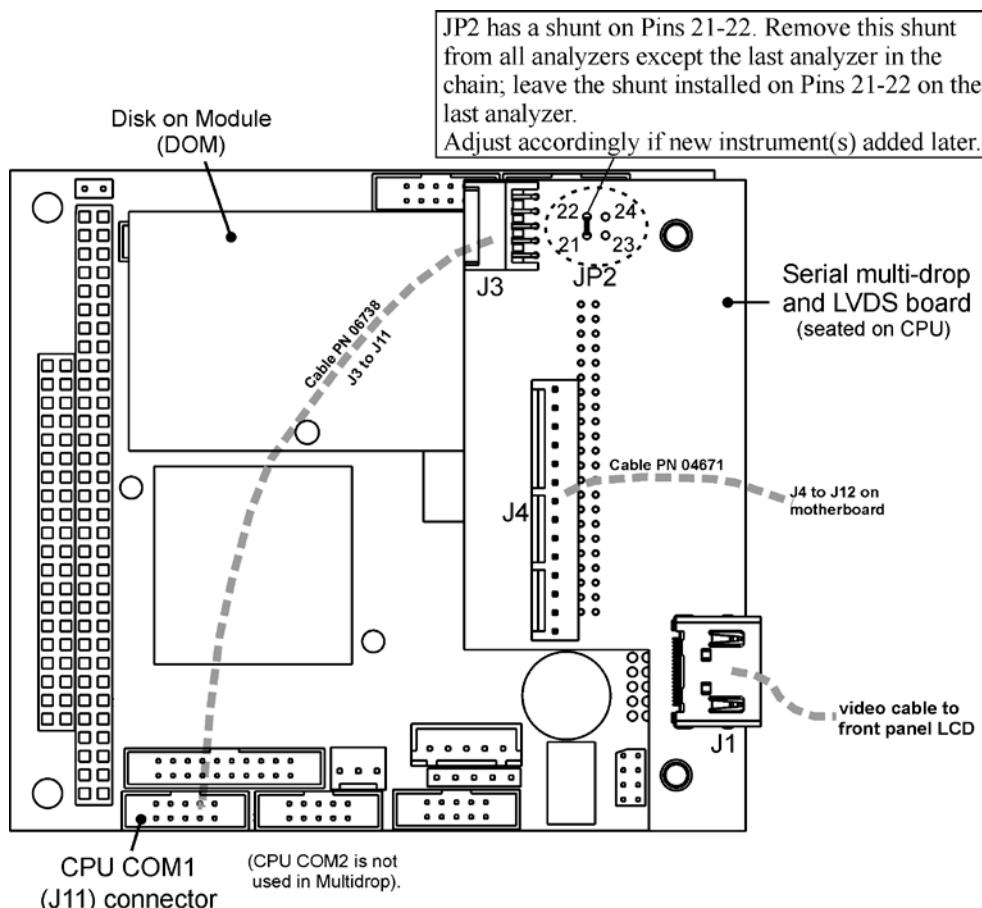

Figure 4-8: Jumper and Cables for Multi-drop Mode
In each instrument with the multi-drop option there is a shunt jumping two pins on the serial multi-drop and LVDS printed circuit assembly (PCA), as shown in Figure 4-8. This shunt must be removed from all instruments except that designated as last in the multi-drop chain, which must remain terminated. This requires powering off and opening each instrument and making the following adjustments:
2. On the multi-drop/LVDS PCA's JP2 connector, remove the shunt that jumpers Pins 21 ↔ 22 as indicated in Figure 4-8. (Do this for all but the last instrument in the chain where the shunt should remain at Pins 21 ↔ 22).
3. Check that the following cable connections are made in *all* instruments (again refer to Figure 4-8).